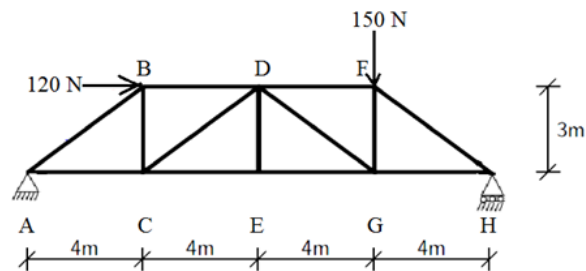

Figure 1
1. (a) A truss of 16 m span is simply supported at A and H. Verify the support reactions at A (hinged) and H (roller) for the given loads as shown in Figure 1. Using method of sections determine the forces in members AC, BC and BD. [7M]